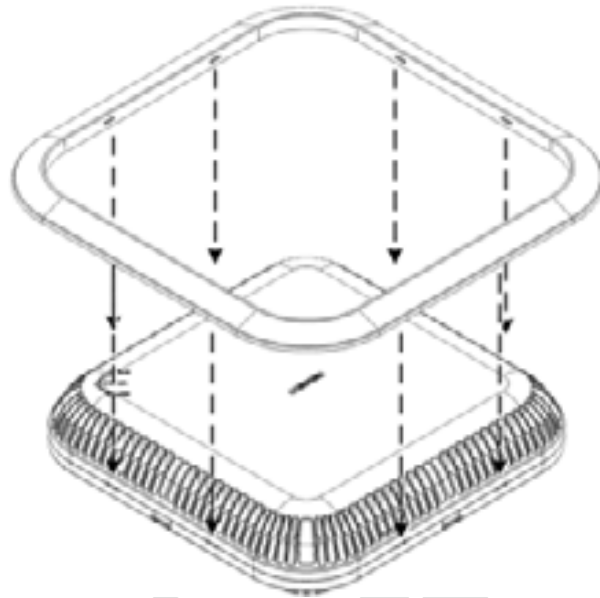

Figure 5-72. Assembling RAU Frame Cover
1. Referring to Figure 5-72, assemble the RAU Frame Cover (provided with the RAU) onto the RAU.